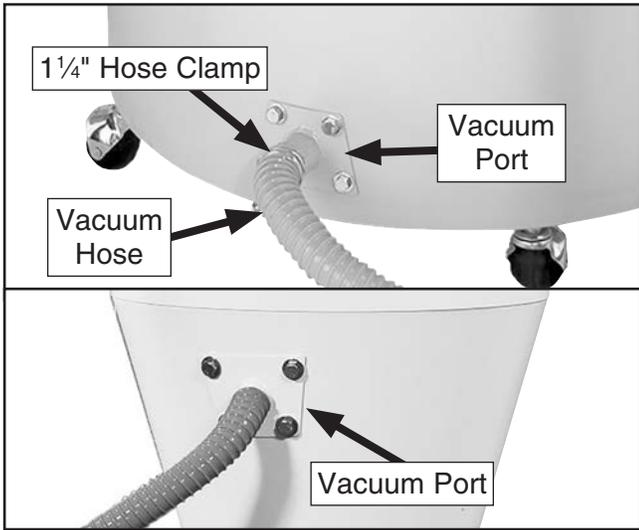

Figure 29. Vacuum hose connected.
40. Connect vacuum hose to collection drum vacuum port and cyclone vacuum port with (2) $1\frac{1}{4}$ " hose clamps (see **Figure 29**).